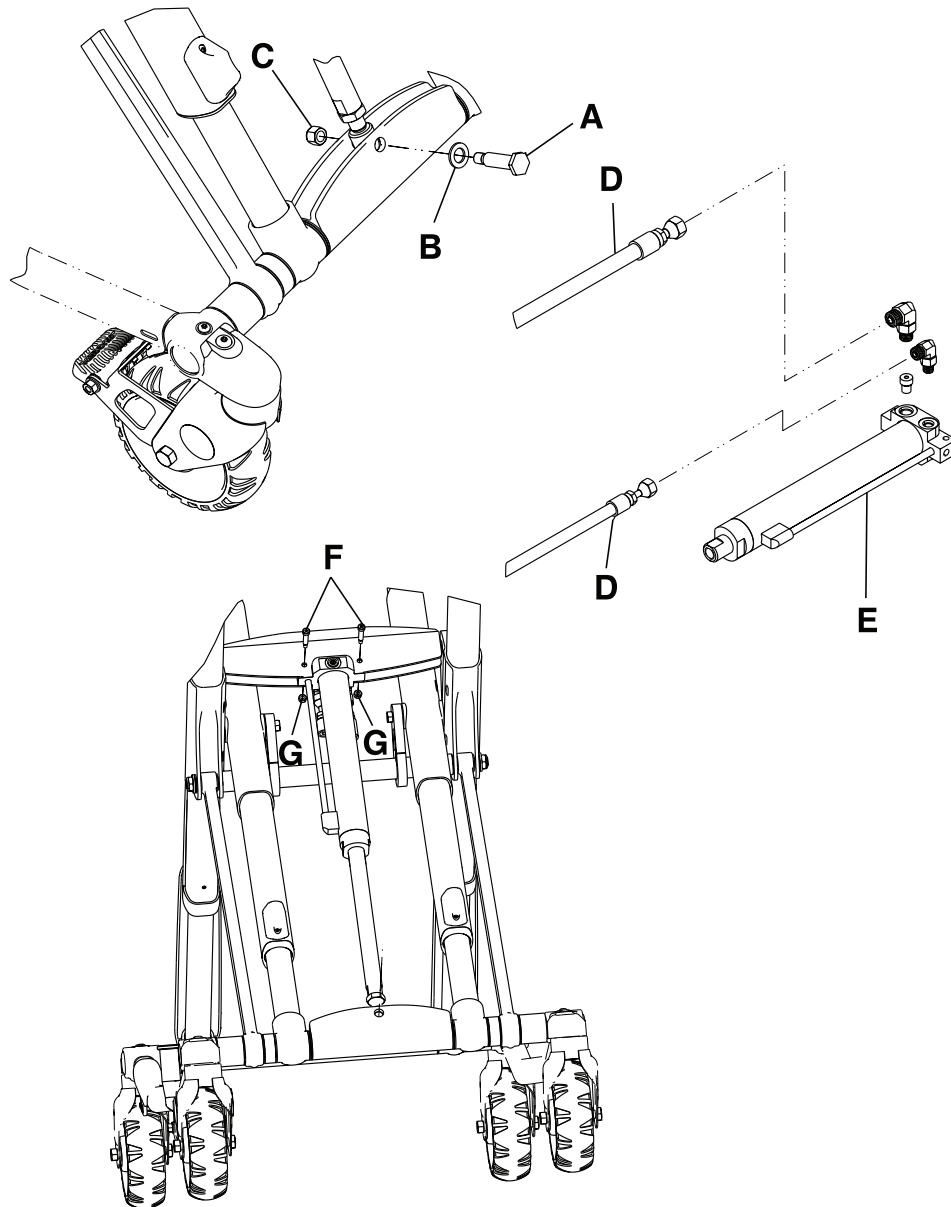

Figure 20: Hydraulic cylinder replacement
3. Using a 3/4" and 9/16" combination wrench, remove the rod attachment pin (A), washer (B), and Nylock hex nut (C) that secure the hydraulic cylinder to the base. (Figure 20 on page 53).
5. Using an 11/16" combination wrench and a 13/16" combination wrench, remove both hoses (D) from the hydraulic cylinder (E). (Figure 20 on page 53).
7. Using a 1/8" hex wrench and 3/8" combination wrench, remove the two socket head set screws (F) and Fiberlock hex nuts (G) that secure the hydraulic cylinder to the base. (Figure 20 on page 53).